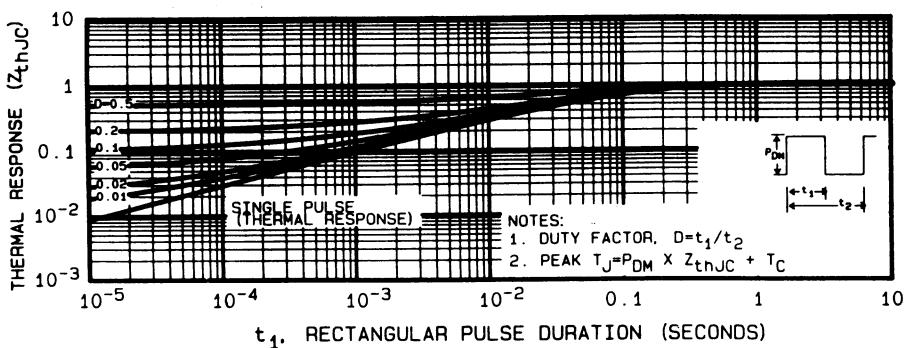

Fig. 5 - Maximum Effective Transient Thermal Impedance, Junction-to-Case Vs. Pulse Duration
1. Repetitive Rating: Pulse width limited by maximum junction temperature (see Figure 5).
① Repetitive Rating: Pulse width limited by maximum junction temperature (see figure 5).
② @ $V_{DD} = 50V$, Starting $T_J = 25^\circ C$, $L = 16mH, R_G = 25\Omega$, Peak $I_L = 6.8A$
③ Pulse width $\leq 300\mu s$; Duty Cycle $\leq 2\%$